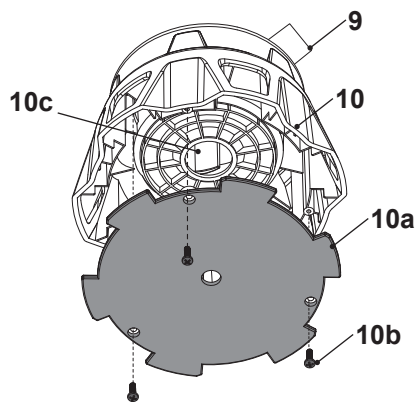

Fig. 7
If excessive deposits collect in the base, dismantle the base (10) of the product and clean the components (Fig. 7).
1. Loosen three screws (10b) anti-clockwise with a proper screwdriver and remove the screws (10b) together with the bottom plate (10a) from the base (10).
3. Clean the base (10), the bottom plate (10a) and the outlet nozzle (9) if needed.